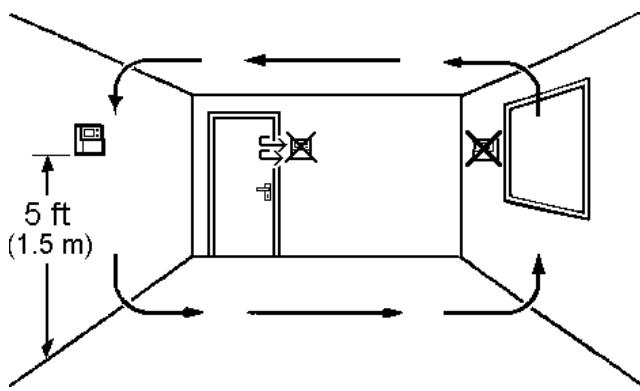

Fig. 2 TP75-RF or TS2 location
1. **TP75-RF** Select the desired fixing position. (This should adhere to normal room thermostat practice, see Fig. 2).